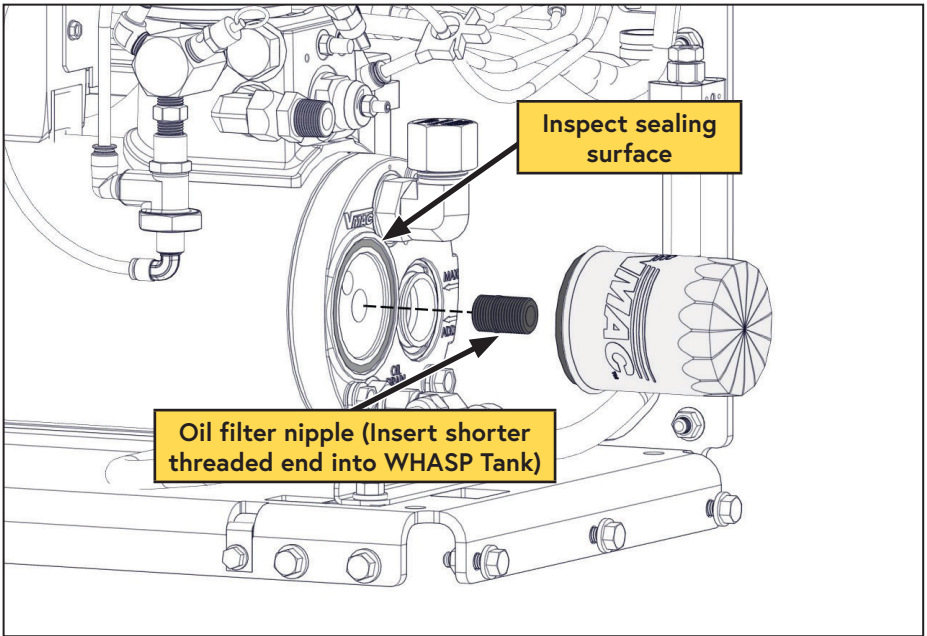

Figure 35 — Compressor oil filter
- *To reinstall the nipple, thoroughly clean the threads and apply Loctite 242 (blue) to the end with the short threads and replace it in the AOST (Figure 35).
- Clean the gasket sealing surface on the front of the tank and inspect it for damage. The surface must be free of old gasket material and smooth to ensure a good seal. (Figure 35).